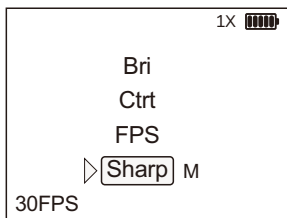

Fig 12
d. Sharpness: From the IMG menu, press the  button to enter the Sharp(Sharpness) function. Click the  button to set your Sharp setting. Sharp has three settings: H/M/L(High/Med/Low Sharpness). Press the  and  buttons to adjust Sharp. After selecting your Sharp setting, press and hold the  button to return to the previous menu. (See Figure 12)